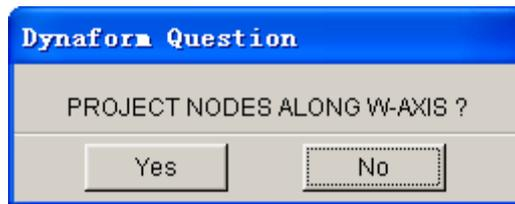

Figure 5.4.3 Project Node Question
- A DYNAFORM Question window is displayed. See Figure 5.4.3.